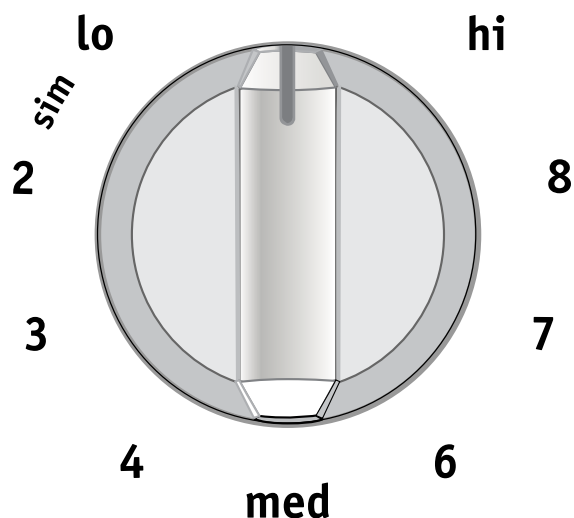

Figure 2 - Control knob shown is typical only.
2. Push in and turn the surface control knob in either direction to the desired setting (Figure 2). Start most cooking operations on a higher setting and then turn to a lower setting to finish cooking. Each surface element provides a constant amount of heat at each setting. A glowing red surface heating area extending beyond the bottom edge of the cookware indicates the cookware is **too small** for the surface heating area.